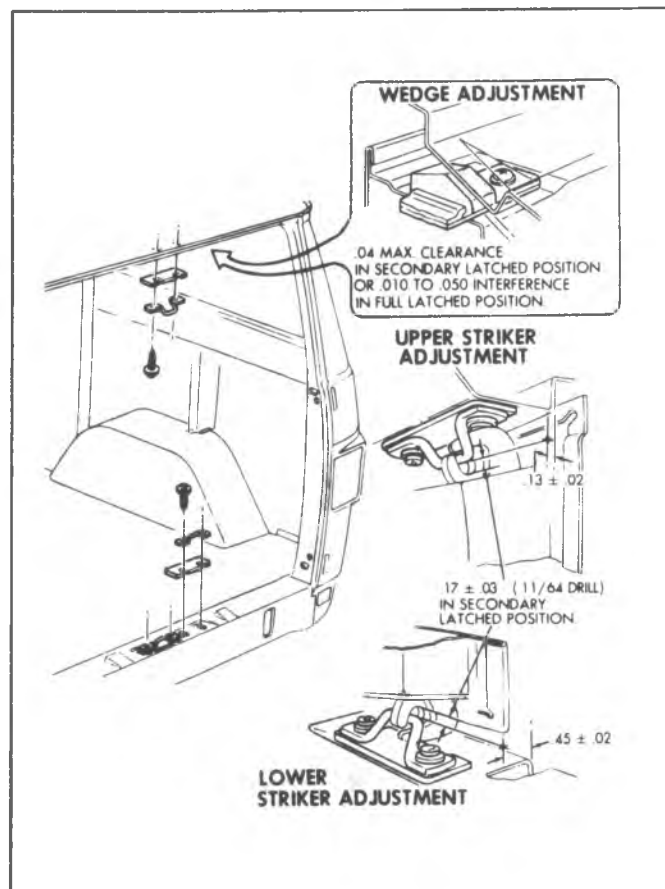

Fig. 2D-133--Rear Door Striker and Wedge Adjustment
1. Adjust striker by adding or deleting shims as necessary to obtain dimension as shown in figure 2D-133. This dimension can be checked by applying grease to the latch and slowly closing door until striker fully engages latch. Then open door and measure from grease impression to bottom of latch slot. Torque to specifications.
2. Adjust door wedge by adding or deleting shims as necessary so that wedge contact ramp on body when door is closed. See figure 2D-133.